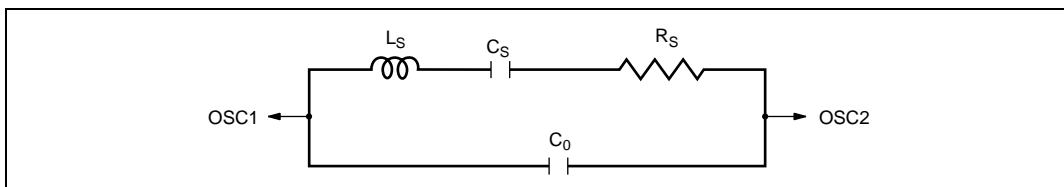

Figure 4.5 Equivalent Circuit of Crystal Resonator
Figure 4.4(1) shows a typical method of connecting a crystal oscillator to the H8/3802 Group, and figure 4.4(2) shows a typical method of connecting a crystal oscillator to the H8/38004, H8/38104 and H8/38002S Group. Figure 4.5 shows the equivalent circuit of a crystal resonator. A resonator having the characteristics given in table 4.1 should be used.